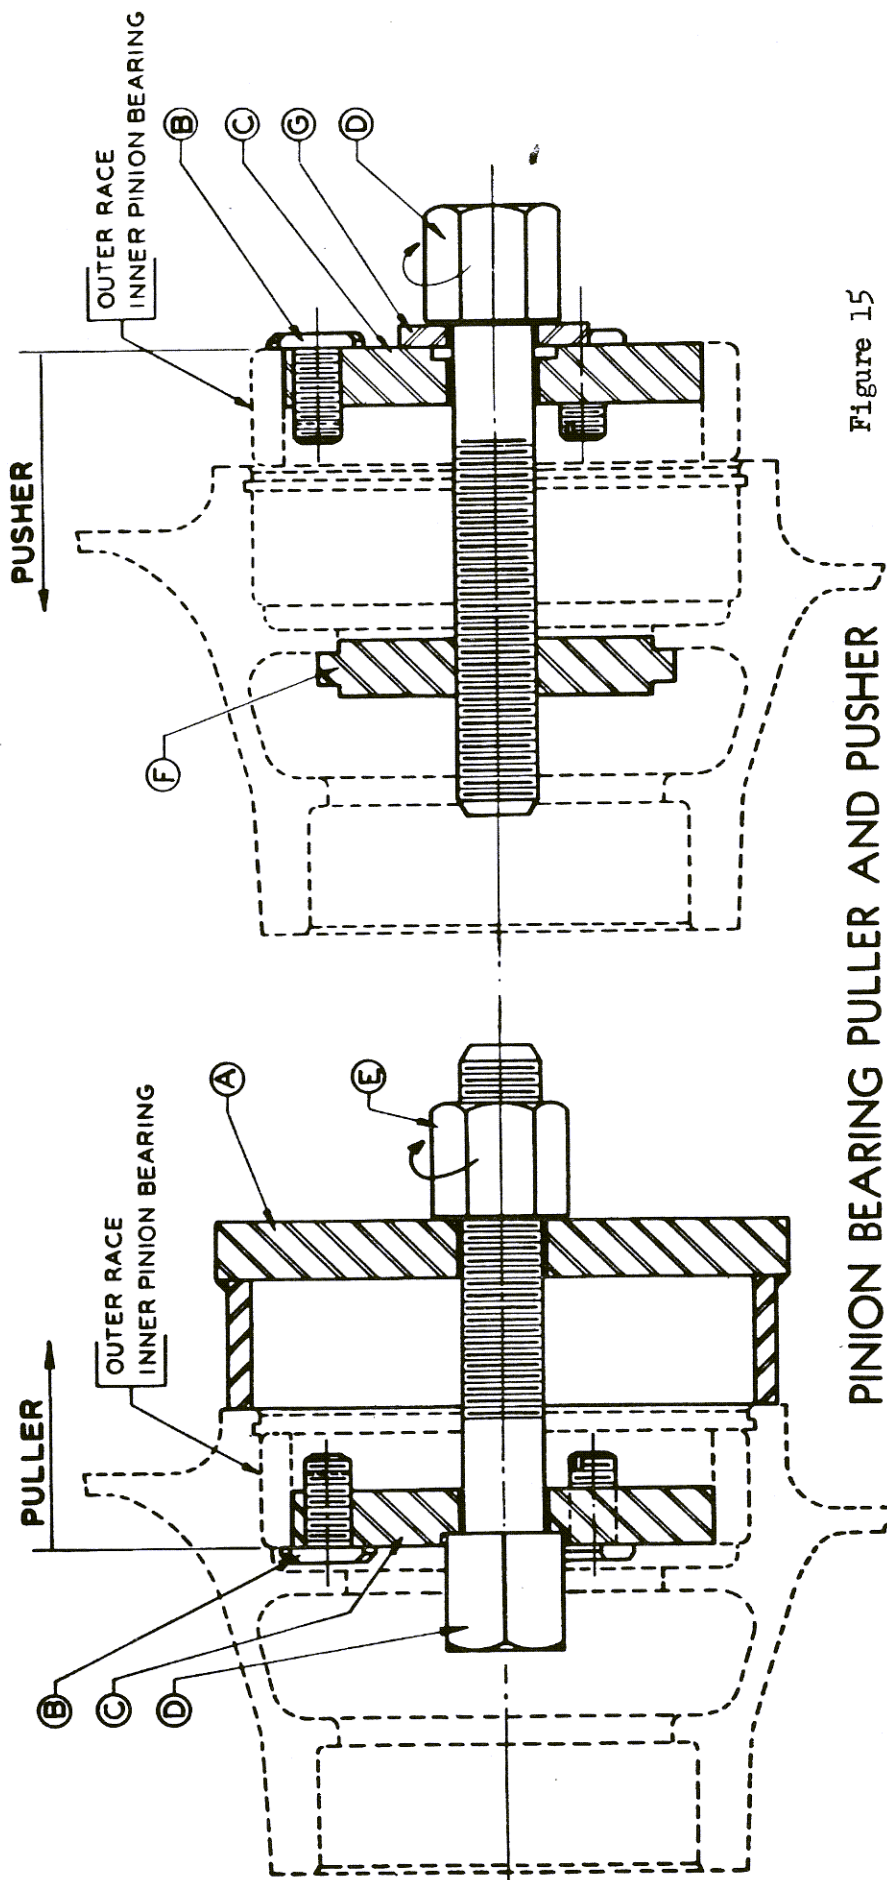

Figure 15
3. Remove the pinion flange and press out the pinion shaft from the case. The roller bearing inner raceway and rollers will come out with the shaft, but the outer raceway of the roller bearing must be removed from the gear case with a puller shown in Figure 15.